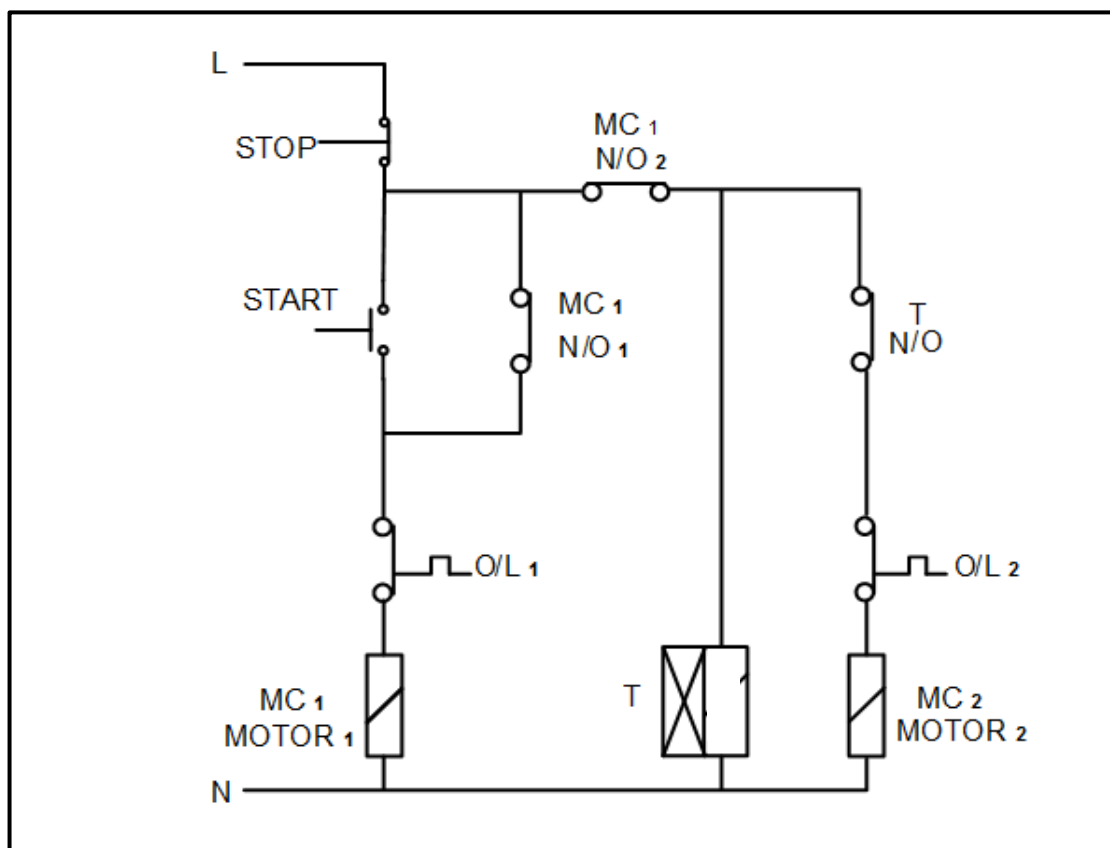

FIGURE 4.5: CONTROL CIRCUIT OF AN AUTOMATIC SEQUENCE STARTER
- 4.5 The control circuit of a motor starter is shown in FIGURE 4.5 below. Study the circuit diagram and answer the questions that follow.